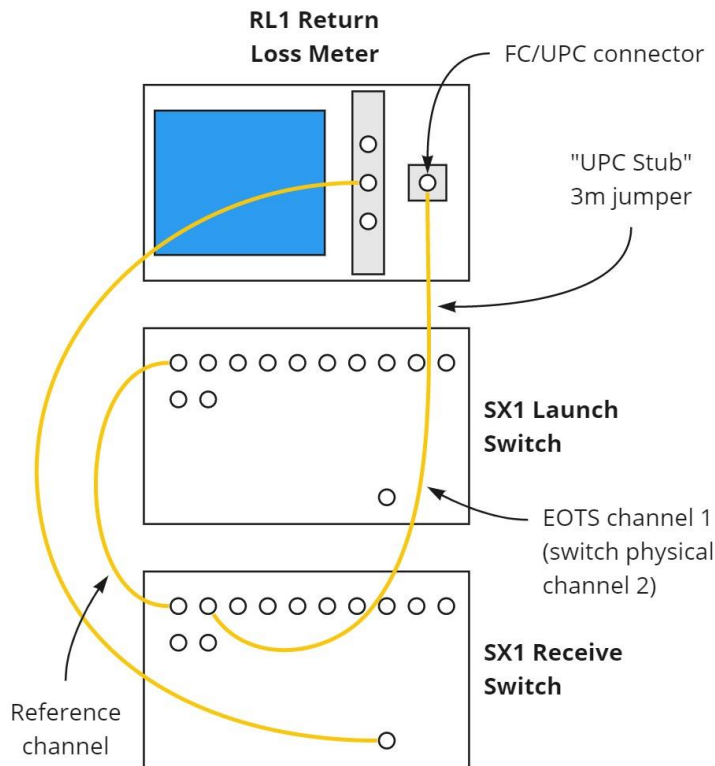
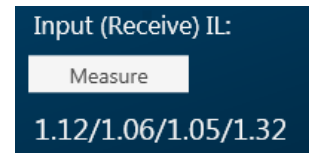

Figure 25: Direction 2 launch length reference and input IL connection diagram
Figure 26: Measure direction 2 input IL
- Inspect and connect the 3m UPC stub from receive channel 1 to the detector (Figure 25) and measure the *Input (Receive) IL* (Figure 26, typical values are < 2 dB).